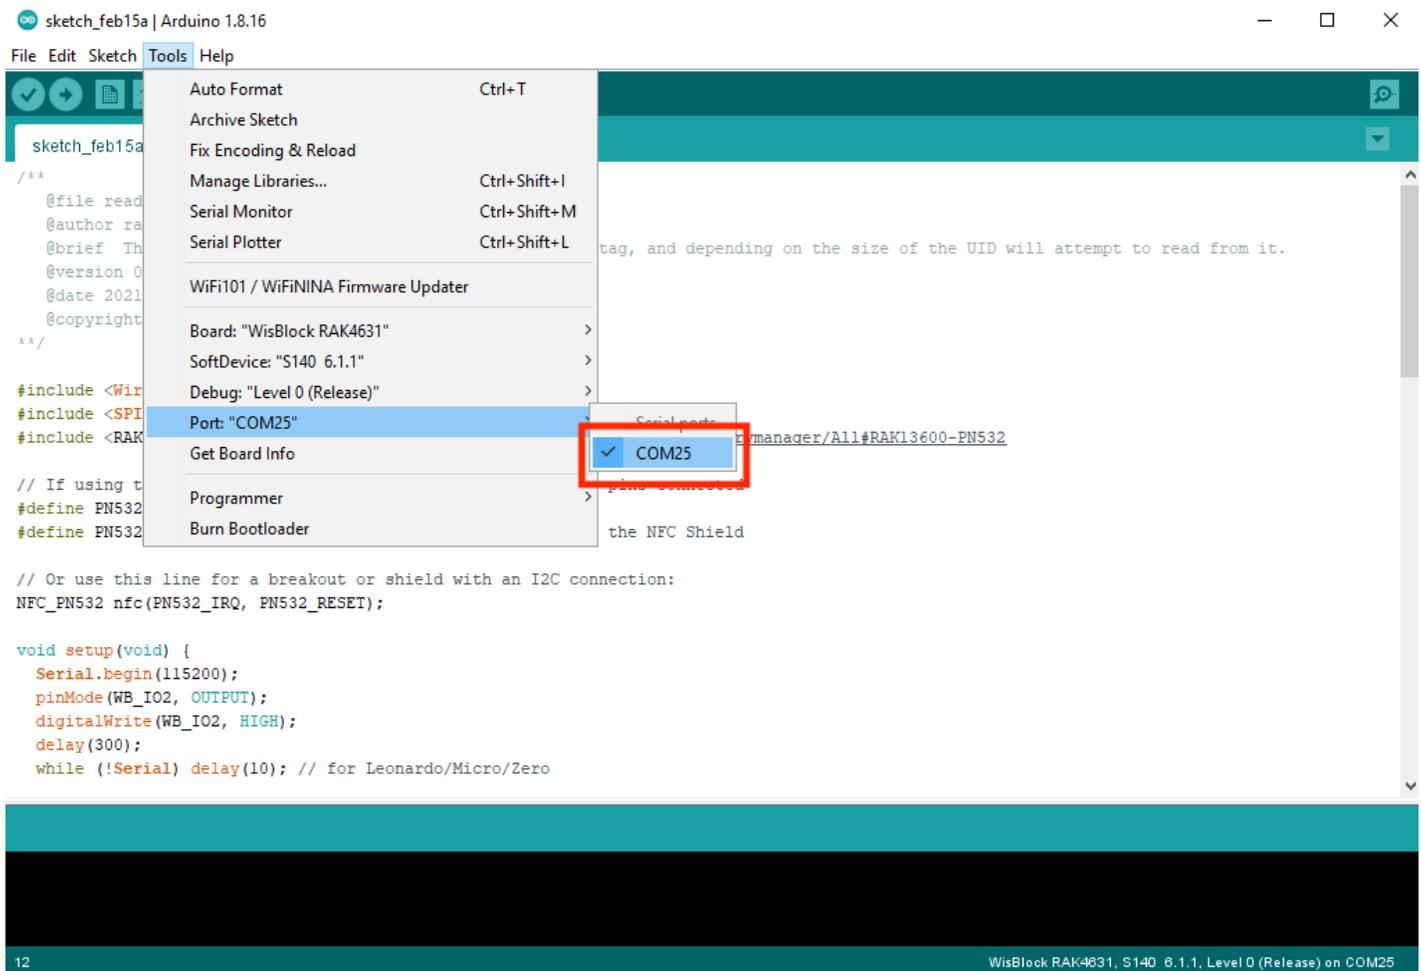
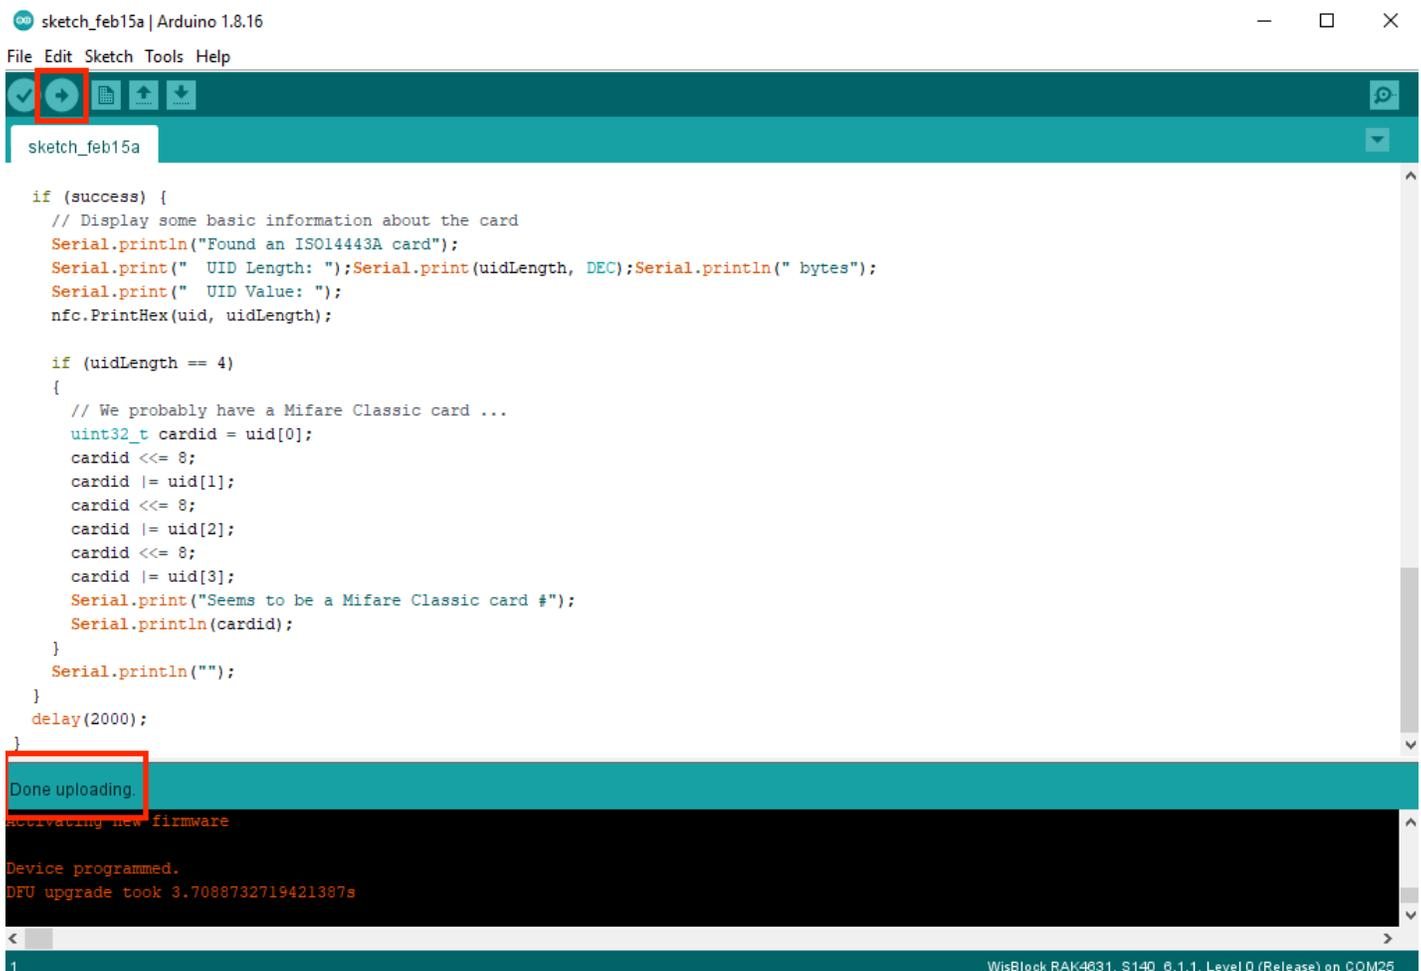

Figure 14: Selecting the correct Serial Port
Figure 15: Uploading the sample code
6. Select the right Serial Port and upload the code, as shown in **Figure 14** and **Figure 15**.